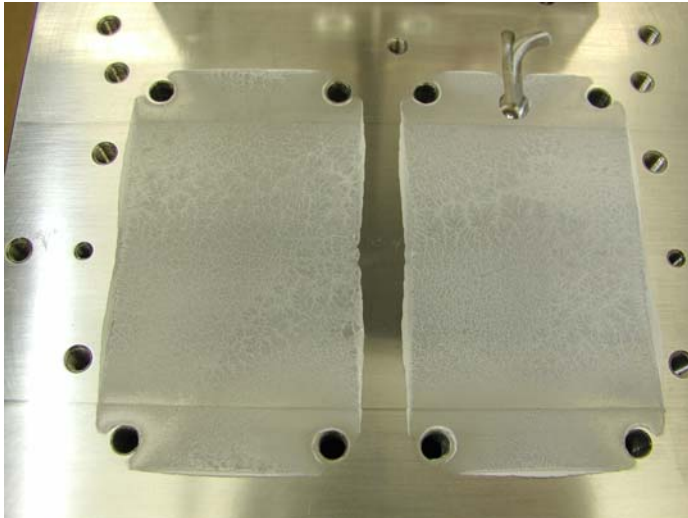

Figure 10
- Print image of cooler. (figure 10)